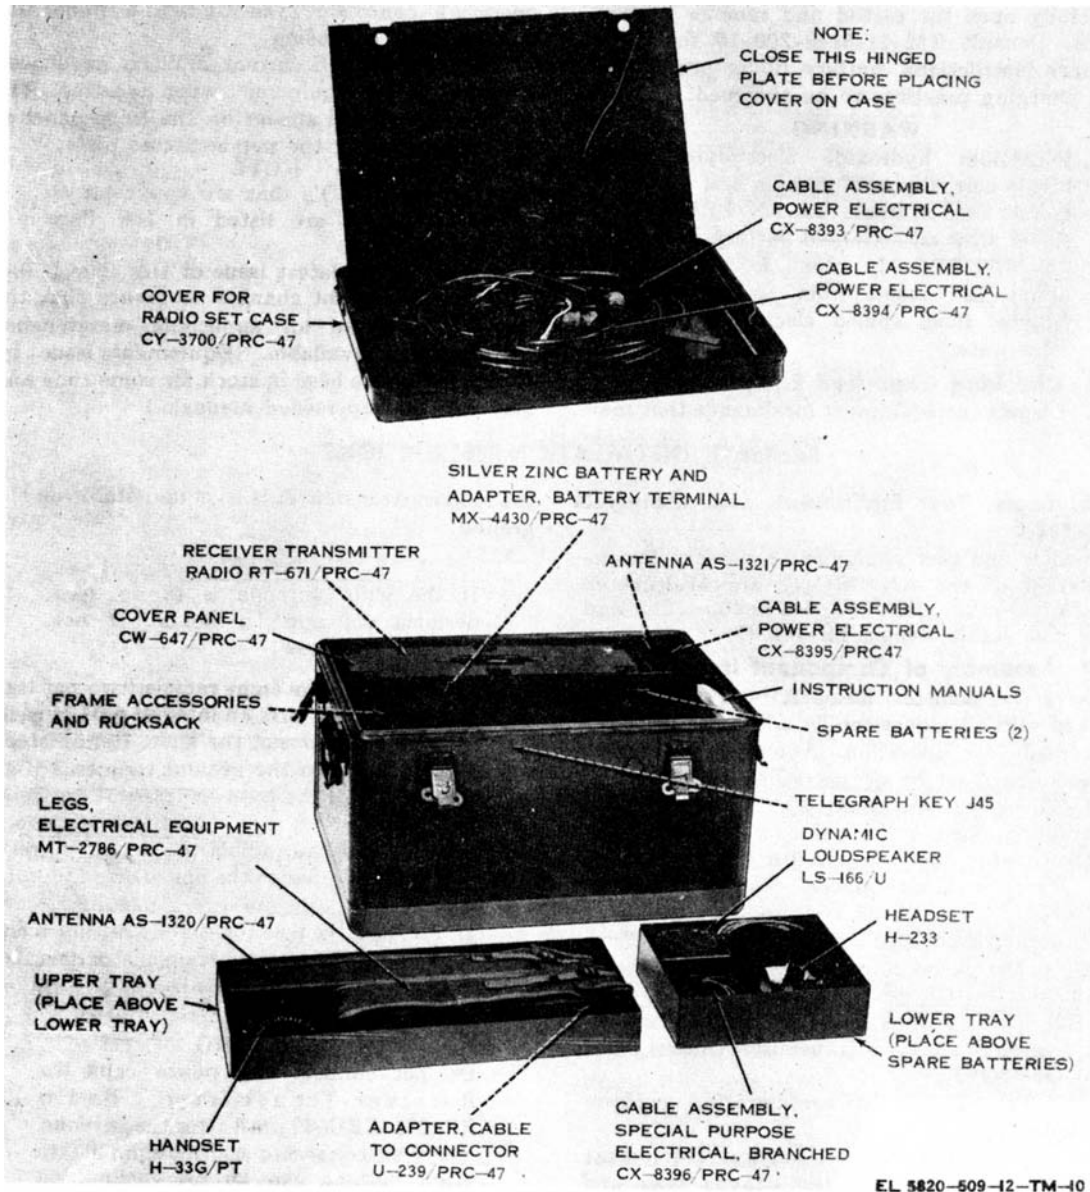

Figure 2-2. Case, Radio Set CY-3700/PR-7. packing details.
b. Running Spares. The chart below lists the running spares for the radio set. The two spare batteries are stored in the radio set case (fig. 2-2); the two fuses and the four lamps are stored inside the receiver-transmitter panel cover (fig. 1-6).
CX-8393/PRC-47 and CX-8394/PRC-47 are coiled inside the cover /fig. 2-2). Release the hinged plate by pressing the push-to-release fasteners.
(a) Remove antenna elements from antenna case (fig. 2-2).
(a) Remove the antenna from the case (fig.2-2).